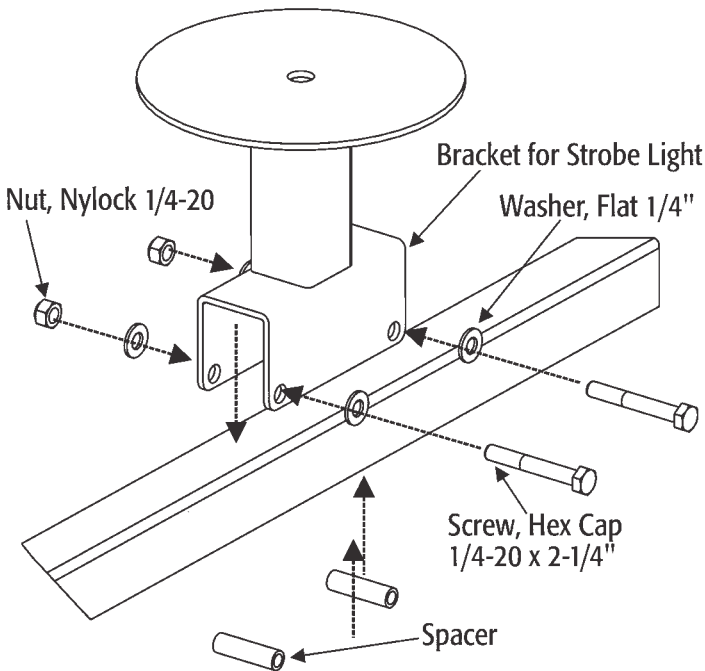

Fig. 2
2. Install all hardware *as shown in Fig.2*. Make sure to place spacers into opening of U- shaped base to prevent collapsing of this part.